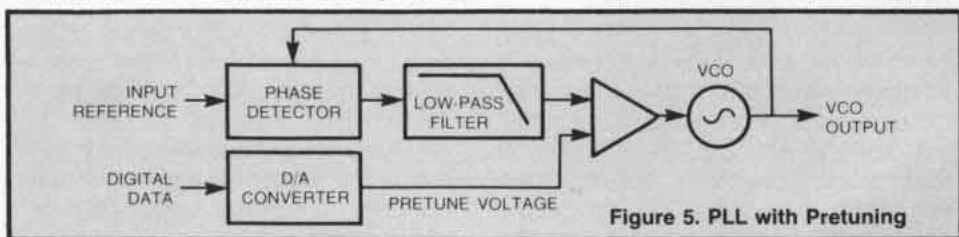

Figure 5. PLL with Pretuning
**PRETUNING** — The phase detector error voltage usually is limited in tuning the VCO over a relatively small frequency range. When the VCO must be tuned over a wide frequency range, pretuning is used. Pretuning is accomplished by summing a dc voltage, which can vary over a wide range, with the phase detector output which varies over a small range, and using the combined voltage to tune the VCO. The pretuning voltage comes from a Digital-to-Analog (D/A) converter which is programmed by digital data representing the frequency to which the VCO is to be tuned. The pretuning voltage "coarse tunes" the VCO close to the desired frequency and the phase detector then "fine tunes" the VCO to lock the loop. The phase detector keeps the loop locked by adjusting for small variations in VCO frequency. See Figure 5.
A malfunctioning PLL is difficult to troubleshoot due to the fact it's a positive feedback-type loop. The most common method of troubleshooting is to open the loop and check the individual circuits. For example, about all you can do with the circuit shown in Figure 5 is ground the output of the filter, then check the VCO output at the various frequencies dictated by the